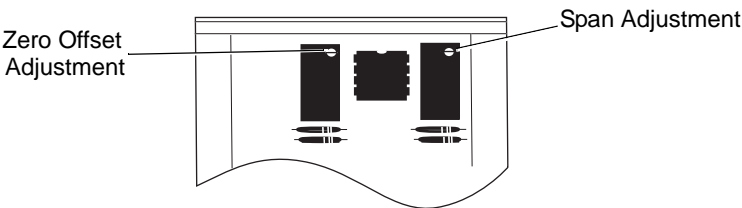

Figure-2 Calibration Adjustments.
- 4. Adjust the offset potentiometer to produce a 2 Vdc signal at the output. A clockwise rotation of the potentiometer screw will increase the output signal. See Figure-2.
- 6. Adjust the span adjustment to produce a 10 Vdc signal at the output. A clockwise rotation of the potentiometer screw will increase the output signal. See Figure-2.